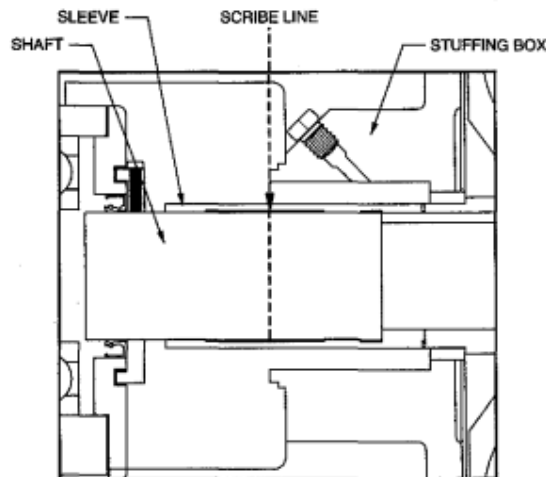

FIGURE 6
THE FOLLOWING INSTRUCTIONS REFER TO PUMPS EQUIPPED WITH MECHANICAL SEALS. See Figure 6.
- (c) Scribe the shaft sleeve at the face of the stuffing box cover. (See Figure 6) (d)